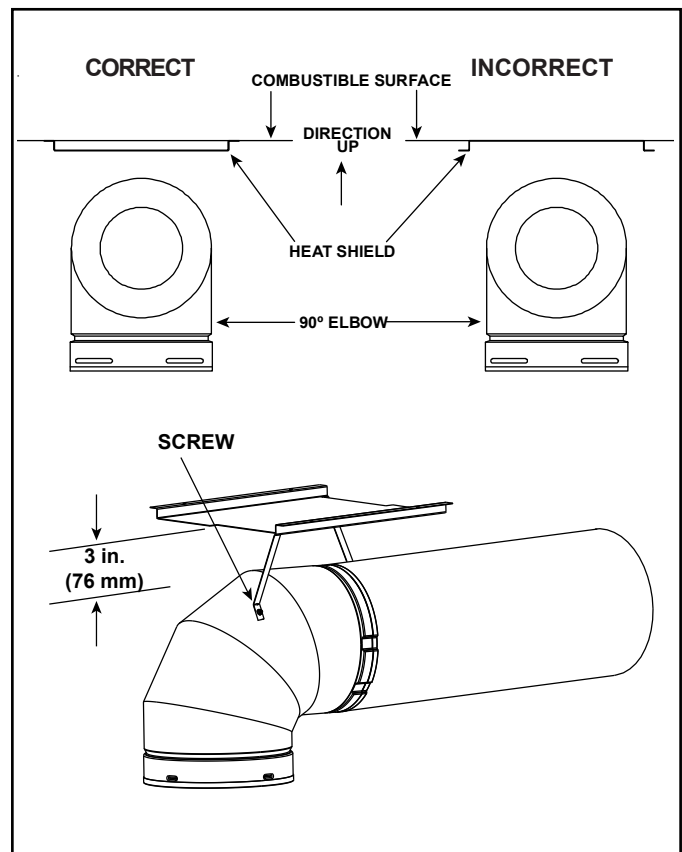

Figure 5.2 Elbow Heat Shield Installation
2. Fasten the shield in place using the four pilot holes. The shield should be oriented such that the dimension (longest dimension) is running in the same direction the elbow is pointing. The shield should be centered directly above the elbow, and positioned so that it creates a 1/2 in. (13mm) airspace between the shield and the combustible surface. See Figure 5.2.
2. Fasten the shield in place using the four pilot holes. The shield should be oriented such that the dimension (longest dimension) is running in the same direction the elbow is pointing. The shield should be centered directly above the elbow, and positioned so that it creates a 1/2 in. (13 mm) airspace between the shield and the combustible surface. See Figure 5.2.